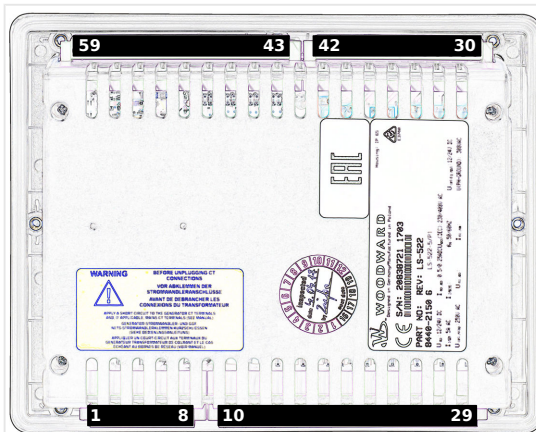

Fig. 18: Plastic housing (rear view)
- Plastic housing - shown in Fig. 18